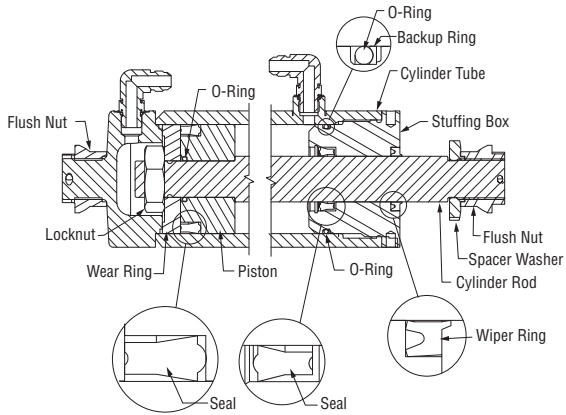

Figure 5-7, Cylinder Seal Orientation
2. Note the direction of the seal on the piston. Improper installation will result in poor performance. See Figure 5-7 for proper seal orientation.
3. Install the seals and wipers in the stuffing box. Note the direction of the seals. (Figure 5-7)